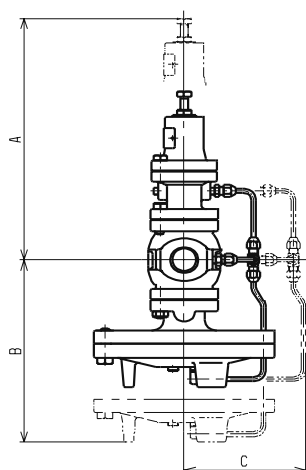

Fig.2
- (7) **Be extremely careful not to damage the copper pipe .**
- (8) **Do not apply excessive load, torque or vibration to the valve .**
- (9) **Use the sensing pipe (8-2m) and joint (8-R1/4) provided.**
- (10) **Do not connect the sensing pipe close to valves and elbows. Choose the position with the least vibration. (Recommended straight length: 10 times the line pipe diameter)**
- (11) **Use the gate valve as a stop valve at the inlet and outlet sides of the combination valve.**
- (12) **When installing, reserve the space shown below (Fig.2) in both upper and lower side of the pipe center of the product for the maintenance and checking.**